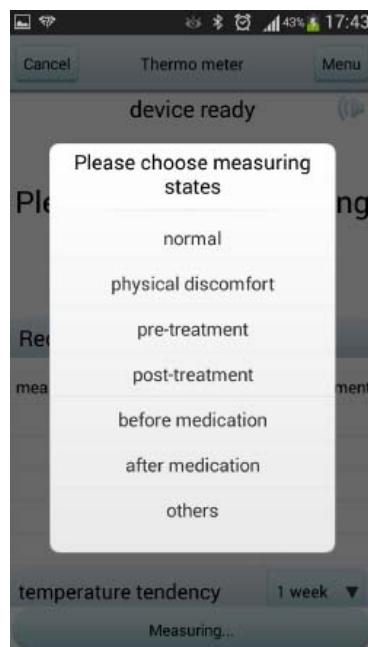
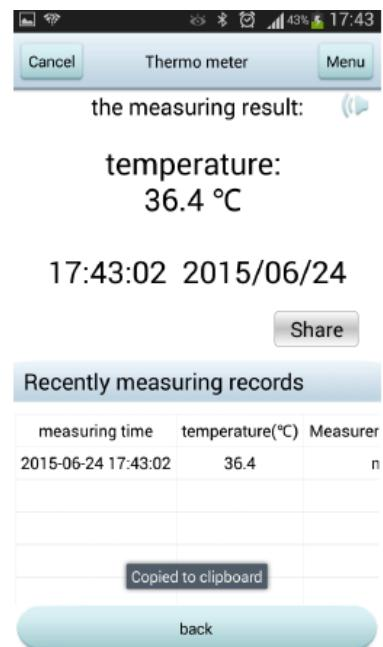

Figure 18
Figure 19
4) 1s after ear temperature or forehead temperature measurement it will remind you to choose the measuring states (Figure 18). After you make a choice you can see the current and recent measurement results (Figure 19).